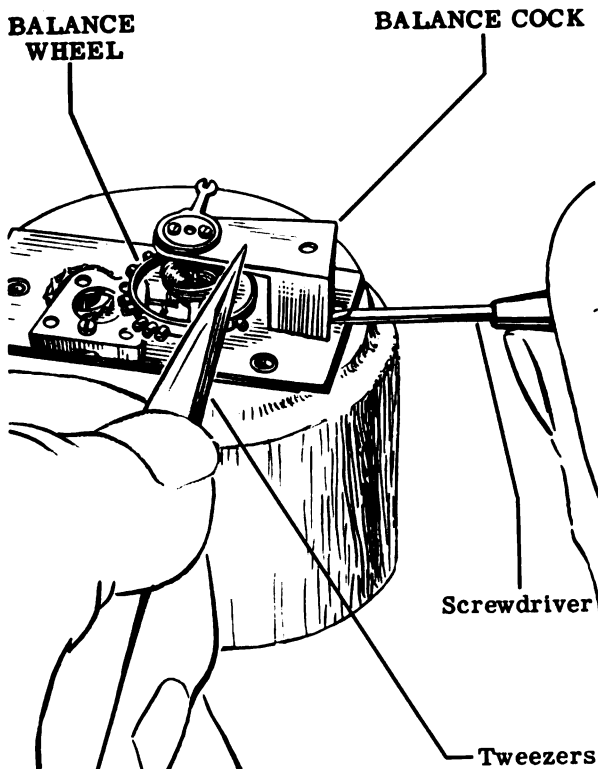

Figure 65
4. The balance cock will remain in position, being held by its steady pins. Grasp the free end of the balance cock with tweezers and apply a slight upward force. Pry the balance cock loose from the escapement plate by using a small screwdriver in the prying hole. Lift off the balance cock. See Figs. 65, 66, 67 and 68. No further disassembly of the balance cock is to take place before cleaning.